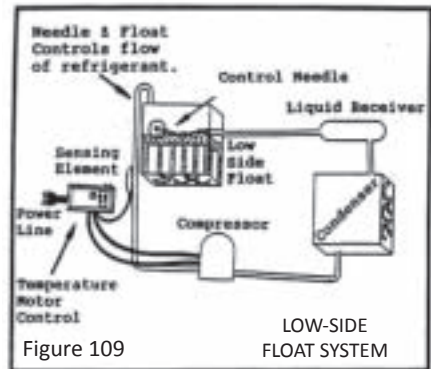

Figure 109
3. Low-side float system (fig. 109)